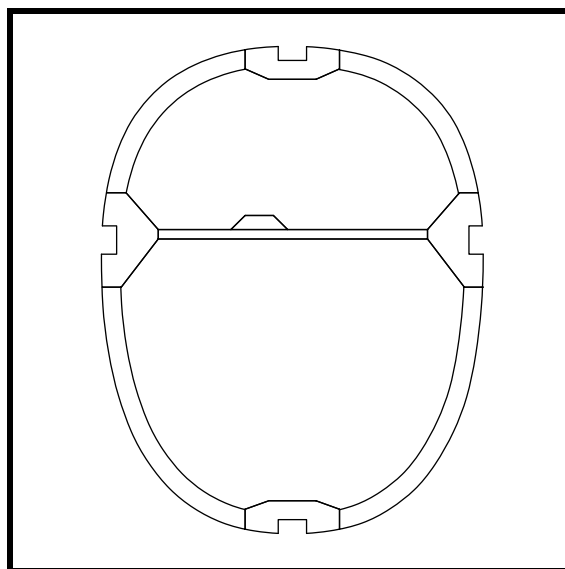

Figure 41
- ❑ Install a spruce block on the horizontal brace as shown in Figure 41. This brace is 15mm high, 30mm wide at the top and its center is at B.L. 35 on the right side of the airplane.